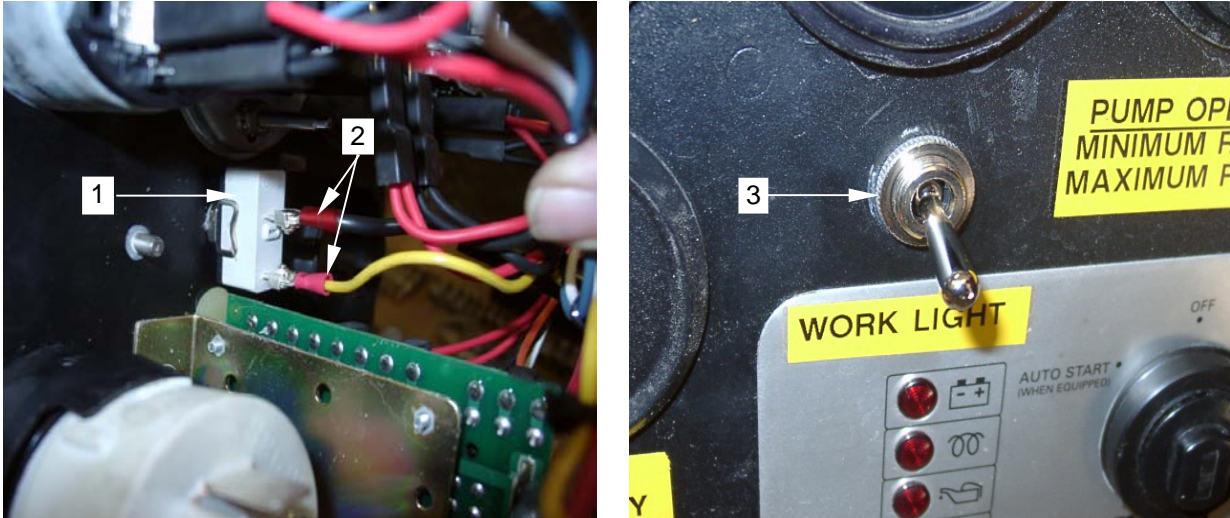
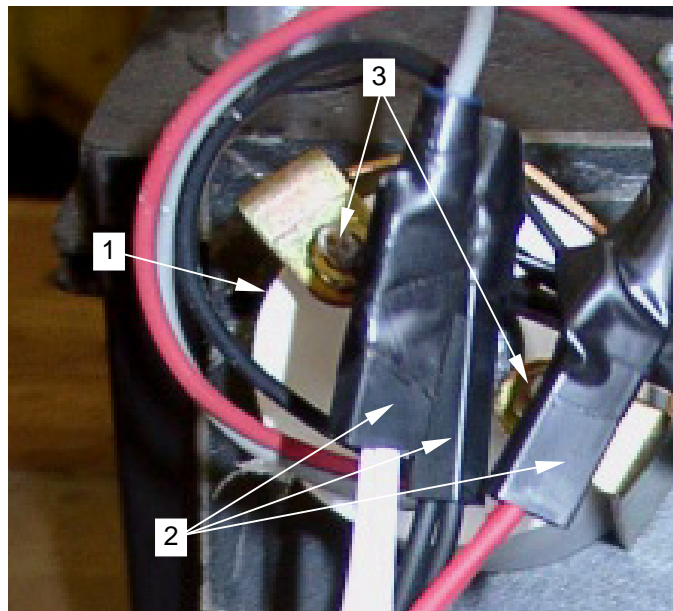

Figure 13. Removal/Installation of Toggle Switch
Figure 14. Removal/Installation of Tachometer
5. To remove the toggle switch (**figure 13, item 1**), tag and remove the wires (**figure 13, item 2**) from the rear of the switch. Remove the rubber boot and retainer (**figure 13, item 3**) from the front of the switch. Remove the switch through the rear of the panel. Install new switch as required.
6. To remove the tachometer (**figure 14, item 1**), tag and disconnect the wires (**figure 14, item 2**) and remove two screws from the angle brackets (**figure 13, item 3**). Remove the tachometer through the front of the panel. Install a new tachometer as required.